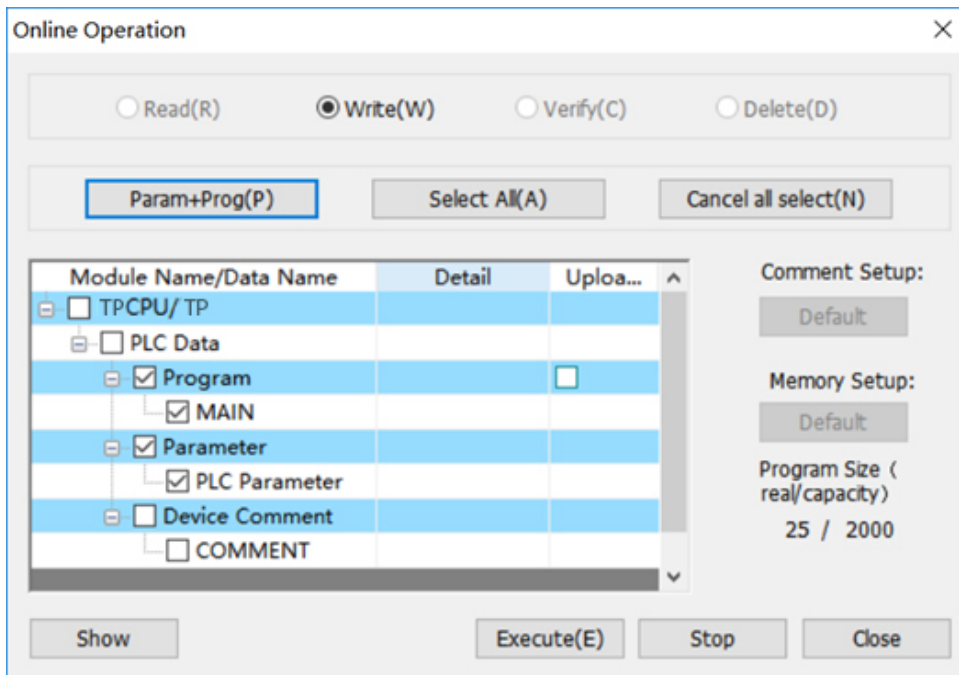

Figure 5-9
- 3) Select downloading content by click buttons, such as [Param + Prog (P)], as Figure 5-9 shows.